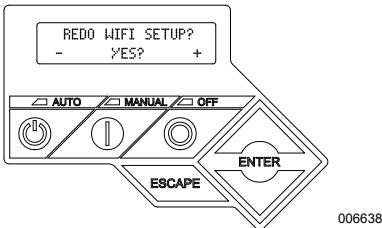

Figure 3-30. Redo Wi-Fi Setup Page
- 2. See Figure 3-30. Use Up/Down and ENTER buttons to scroll to the **REDO WIFI SETUP?** page. Select YES.